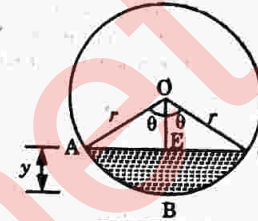

Fig. 1.31.1
- Consider liquid is flowing through a circular channel of radius r as shown in Fig. 1.31.1. Let the depth of flow of liquid be y and the liquid surface subtend an angle 2θ with the axis of the channel.
- Depth of flow is then given by (Refer Fig. 1.31.1)